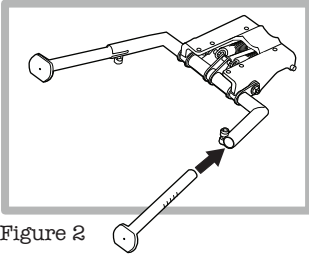

Figure 2
1. Install kickstand legs into kickstand frame. Note: Left and right kickstand legs are unique so that their feet sit flat on the ground when the kickstand is deployed. For initial setup, insert kickstand legs to third insertion mark so only one mark remains visible (Figure 2). Set edge of kickstand feet on a flat surface and rotate them so the feet are parallel with one another and flush with surface. To secure setup, tighten pinch bolts (using a 5mm hex wrench) to 7Nm.